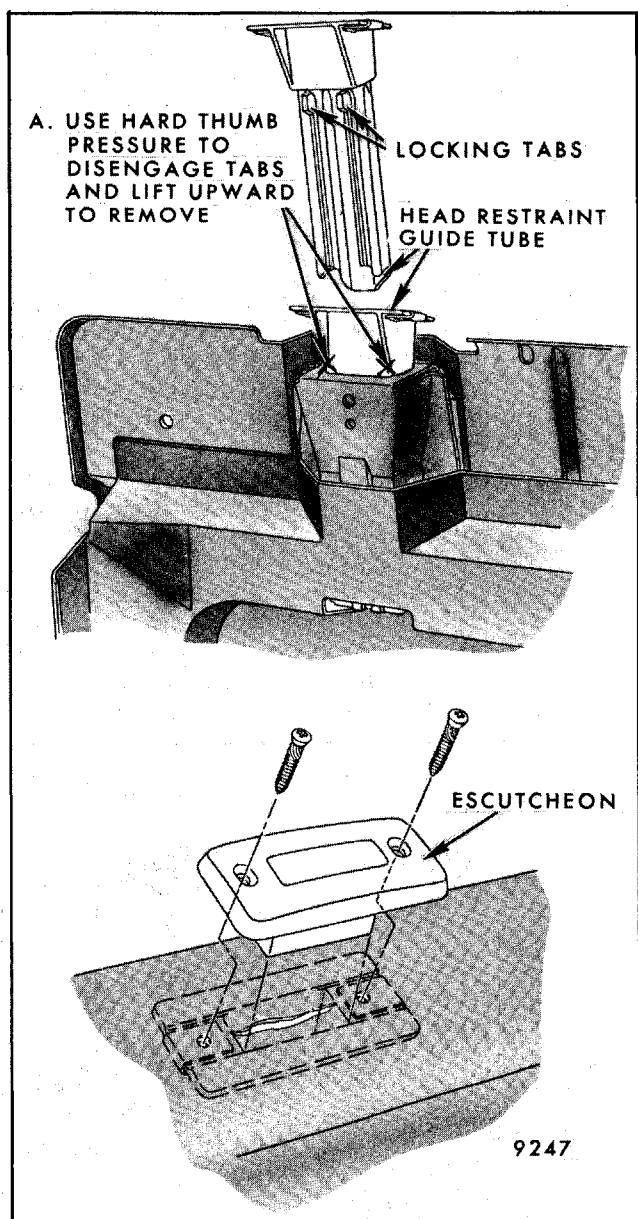

Fig. 9-56 - Head Restraint Guide Tube Removal - "B and C" Styles
3. On "B and C" styles, remove seat back trim assembly. Detach upper portion of foam pad sufficiently to gain access to guide tube where it enters seat back frame; then using hard thumb pressure at points "A" shown in Figure 9-56,
4. To install head restraint guide tube, reverse removal procedure. On "B and C" styles, insert tube as far as locking tabs (see Fig. 9-56); then strike tube downward with hand to lock in position.